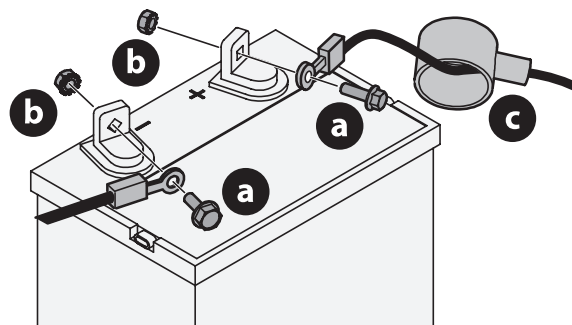

Figure 10
1. If present, remove the plastic cover from the positive battery terminal. Attach the red connector to the positive battery terminal (+) using the bolt (a) and hex nut (b) (Figure 10).
2. Position the red rubber boot (c) over the positive battery terminal to help protect it from corrosion (Figure 10).
3. If present, remove the plastic cover from the negative battery terminal and attach the black cable to the negative battery terminal (-) with the bolt (a) and hex nut (b) (Figure 10).